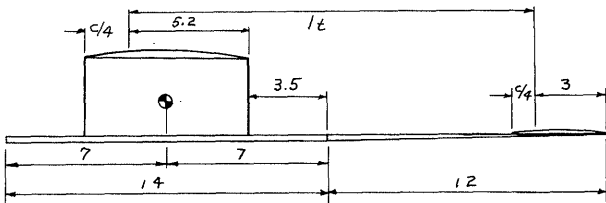

FIG. 1
A couple of examples will illustrate the method of using INP. First, let's compute the static margin of a hypothetical model which has been completed and flown, to see how it should have been trimmed. This model will have the following design: constant chord wing and stab with 7" x 25" wing and 4" x 18" stab. Fuselage and tail boom dimensions, plus wing location, will be as shown in Fig. 1. The basic procedure is as follows:
2.  $l_t = 17.7$ ". (From Fig. 1, note that  $l_t$  is defined (as in CMOS method) as the distance from  $C/4_{wing}$  to  $C/4_{tail}$ . That is from 25% of the average chord on the wing to 25% of the stab average chord. Thus, from Fig. 1  $l_t = 9 + 3.5 + 5.2 = 17.7$ ).